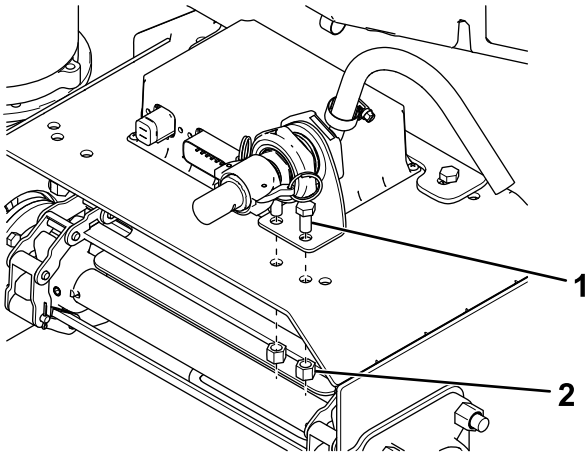

**Figure 13**
- For the Forge pintle chain spreaders, remove the 2 plugs on the rear cover and mount the bracket through them as shown in Figure 13.